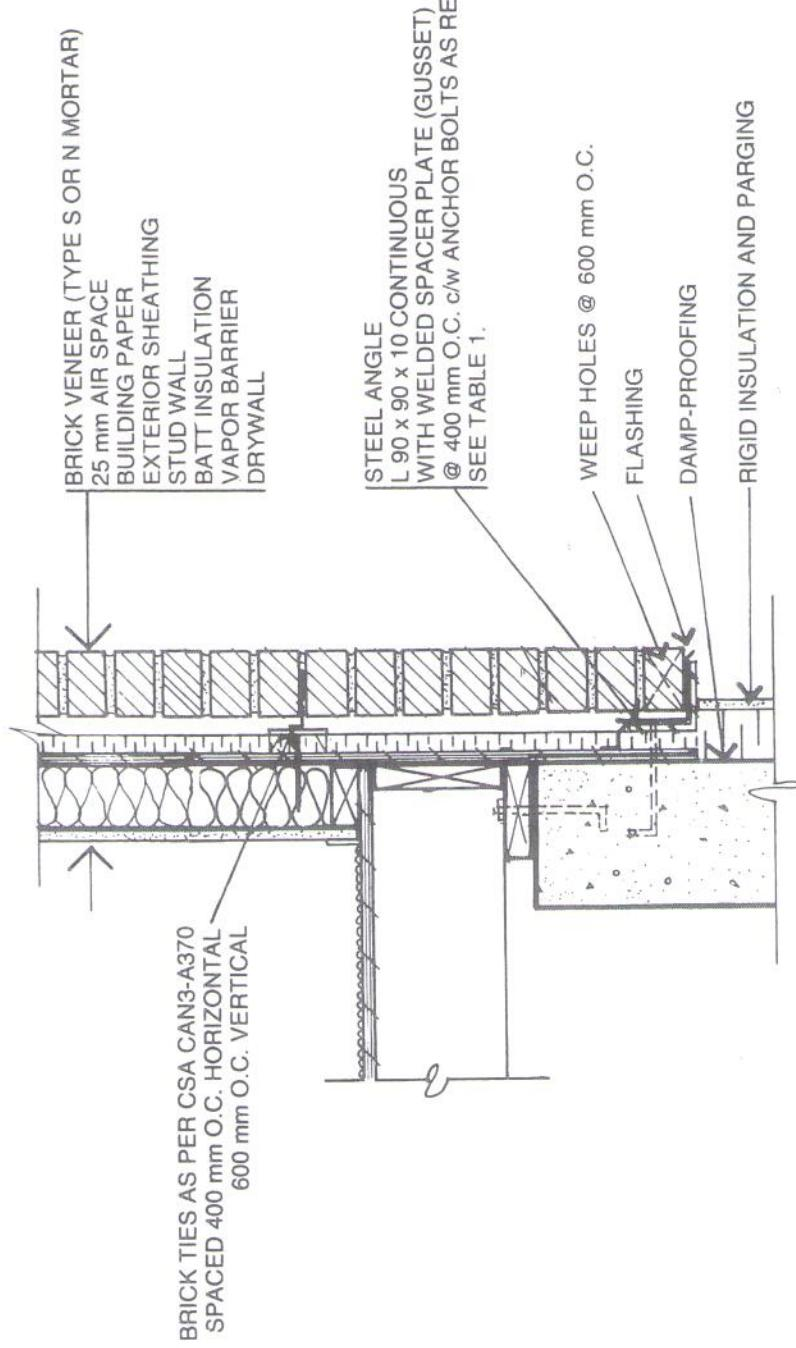

Figure 13 Steel shelf angle brick support detail with cavity insulation
- Figure 13 Steel shelf angle brick support detail with cavity insulation